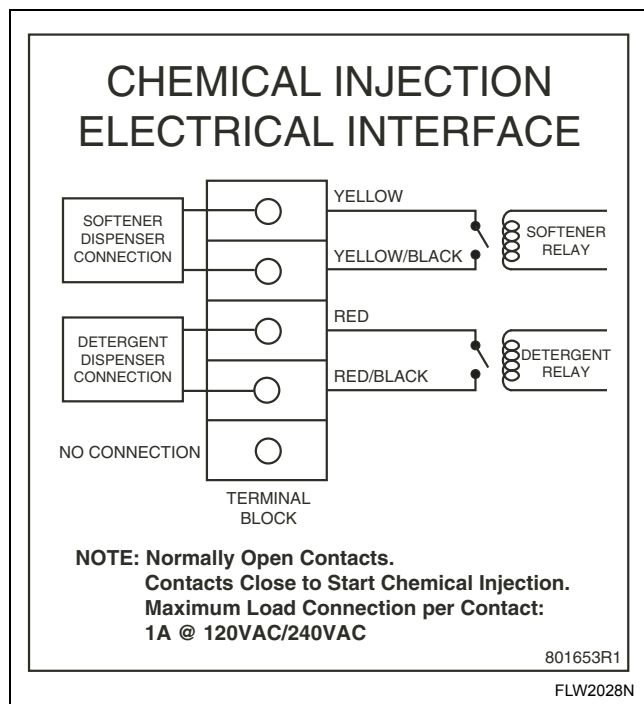

Figure 14
4. Refer to supply injection system instructions and label inside washer junction box cover (*Figure 14*) for electrical connection.
A junction box on the rear panel houses a terminal strip which furnishes supply output signals for the supply injection pumps. These are dry contacts. Voltage needs to be supplied. Refer to *Figure 14* for the injection interface label.